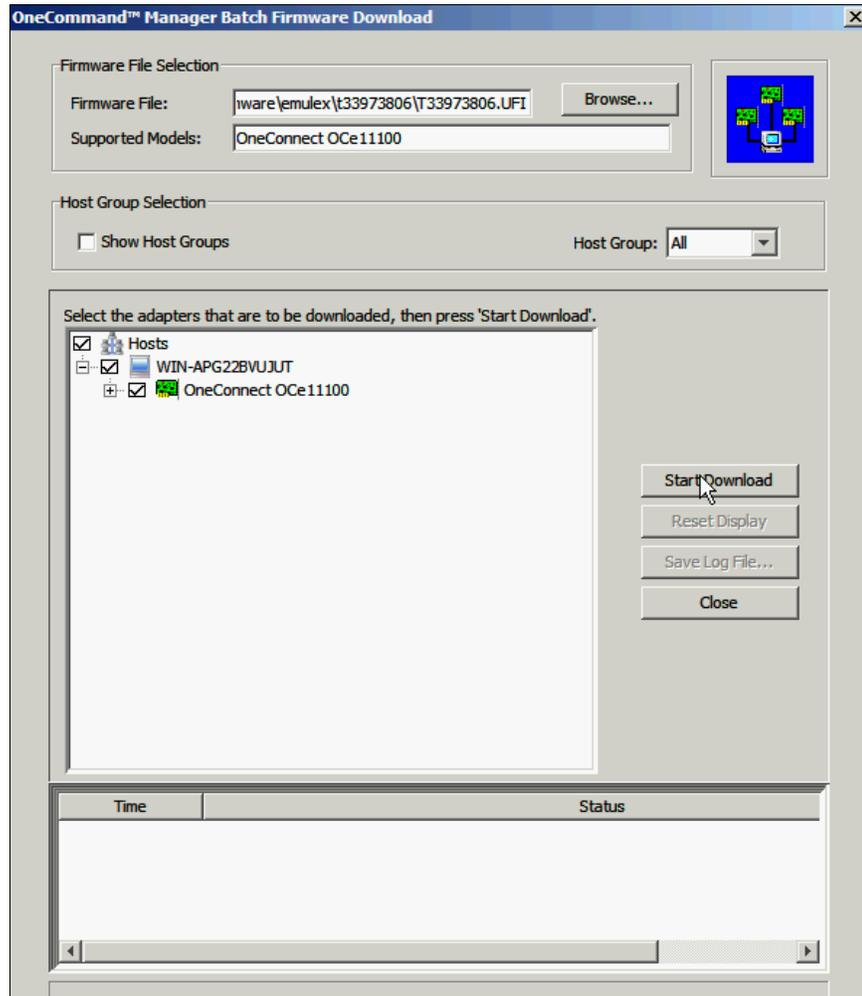

Figure 10-72 OneCommand Manager Batch Firmware Download window
- c. Back in the OneCommand Manager Batch Firmware Download window (Figure 10-72), next to the box where the adapters are selected, click **Start Download**.